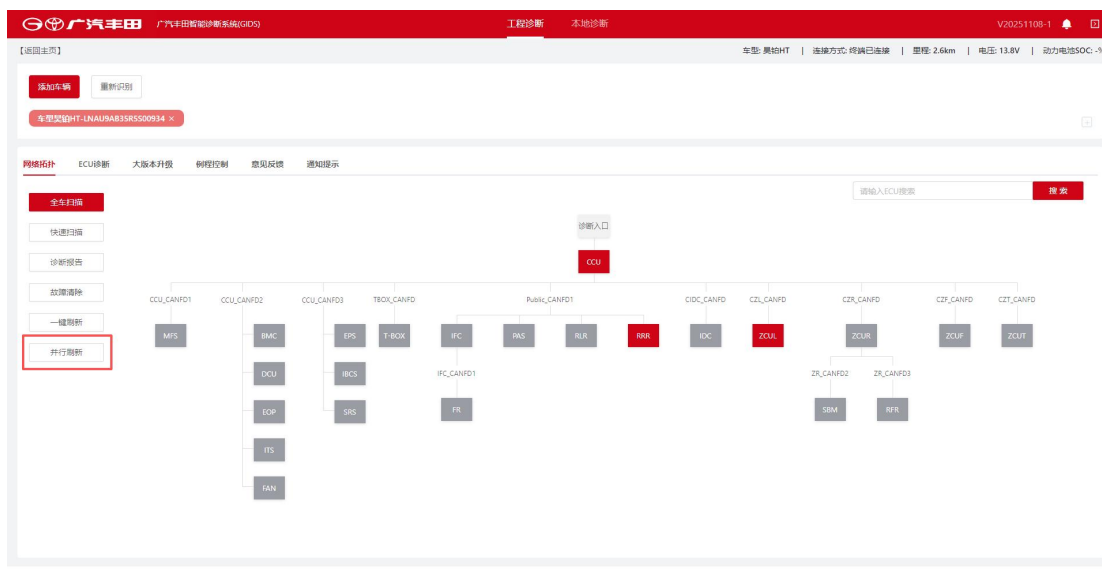
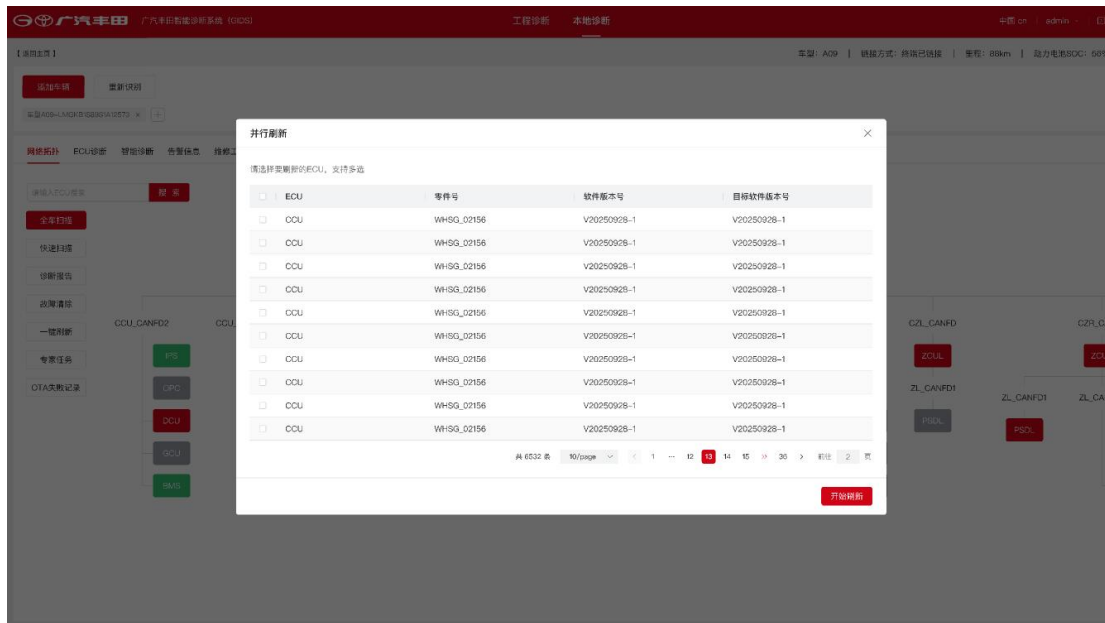

Figure 4-23 Parallel Refresh Button
Figure 4-24 Parallel Refresh List
1. After the user clicks "Parallel Refresh", as shown in Figure 4-23 Parallel Refresh Button, GIDS obtains the ECU refresh package from the cloud. If the vehicle ECU software version is older than the latest cloud version, it is displayed on the interface, as shown in Figure 4-24 Parallel Refresh List.